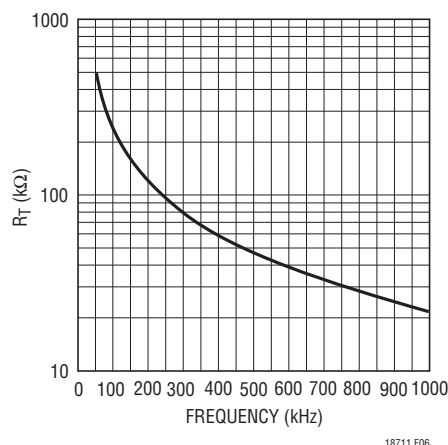

Figure 6. Timing Resistor (R_T) Value
0.6V, and the current that flows into the FREQ pin is used to charge and discharge an internal oscillator capacitor. A graph for selecting the value of R_T for a given operating frequency is shown in Figure 6.